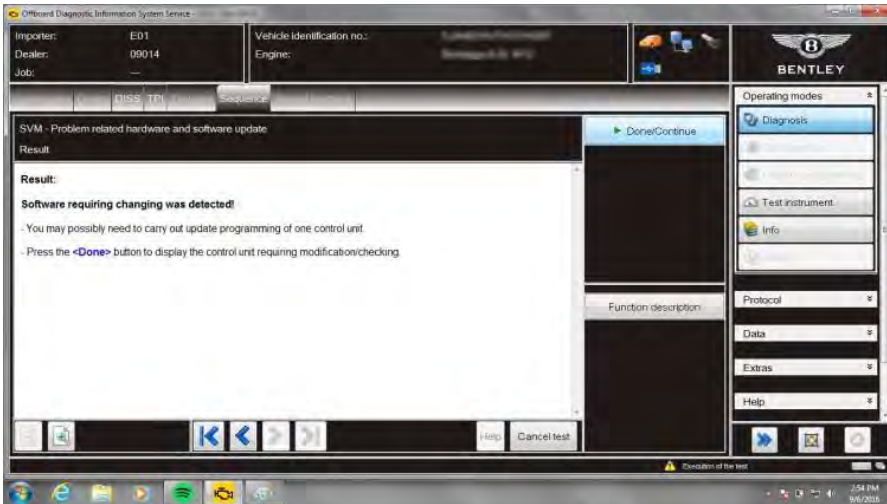

Figure 4
13. Once software that requires changing is detected select Done/Continue (see Figure 4) Note: each of the 3 control units will be offered for software update individually by the program. Follow prompts the online connection will deliver the required software to the tester